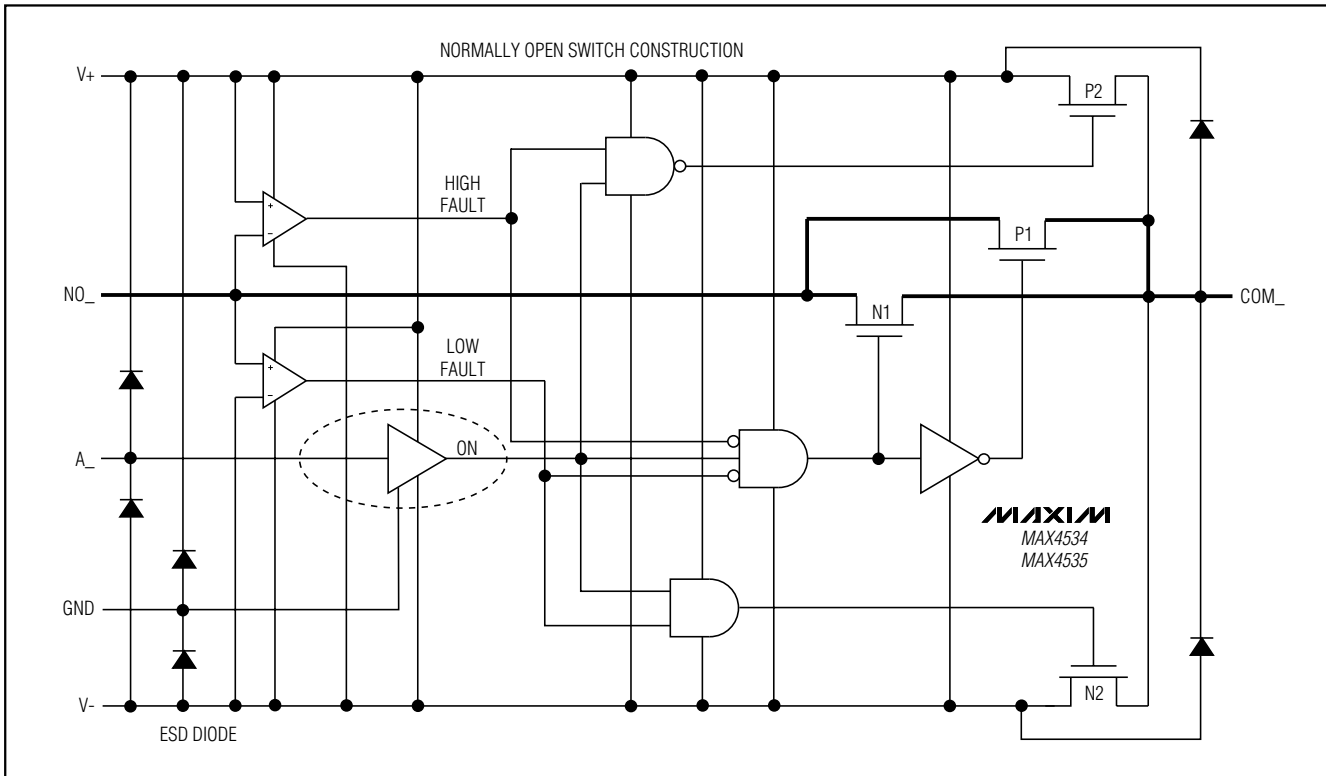

Figure 1. Functional Diagram
Figure 1 shows the internal construction, with the analog signal paths shown in bold. A single, normally open (NO) switch is shown. The analog switch is formed by the parallel combination of N-channel FET N1 and P-channel FET P1, which are driven on and off simultaneously, according to the input fault condition and the logic level state.
off in response to A₋ signals (Figure 1). The parallel combination of N1 and P1 forms a low-value resistor between NO₋ and COM₋ so that signals pass equally well in either direction.
When the signal on NO₋ exceeds V₊ by about 150mV, the positive fault comparator output goes high, turning off FETs N1 and P1 (Figure 1). This makes the NO₋ pin high impedance regardless of the switch state. If the switch state is "off," all FETs turn off, and both NO₋ and COM₋ are high impedance. If the switch state is "on," FET P2 turns on, clamping COM₋ to V₊.
When the signal on NO₋ goes about 150mV below V₋, the negative fault comparator output goes high, turning off FETs N1 and P1 (Figure 1). This makes the NO₋ pin high impedance regardless of the switch state. If the switch state is "off," all FETs turn off, and both NO₋ and COM₋ are high impedance. If the switch state is "on," FET N2 turns on, clamping COM₋ to V₋.
FETs N2 and P2 can source about ±10mA from V₊ or V₋ to the COM₁ pin in the fault condition (Figure 1). Ensure that if the COM₁ pin is connected to a low impedance load, the 30mA absolute maximum current rating is never exceeded, both in normal and fault conditions.